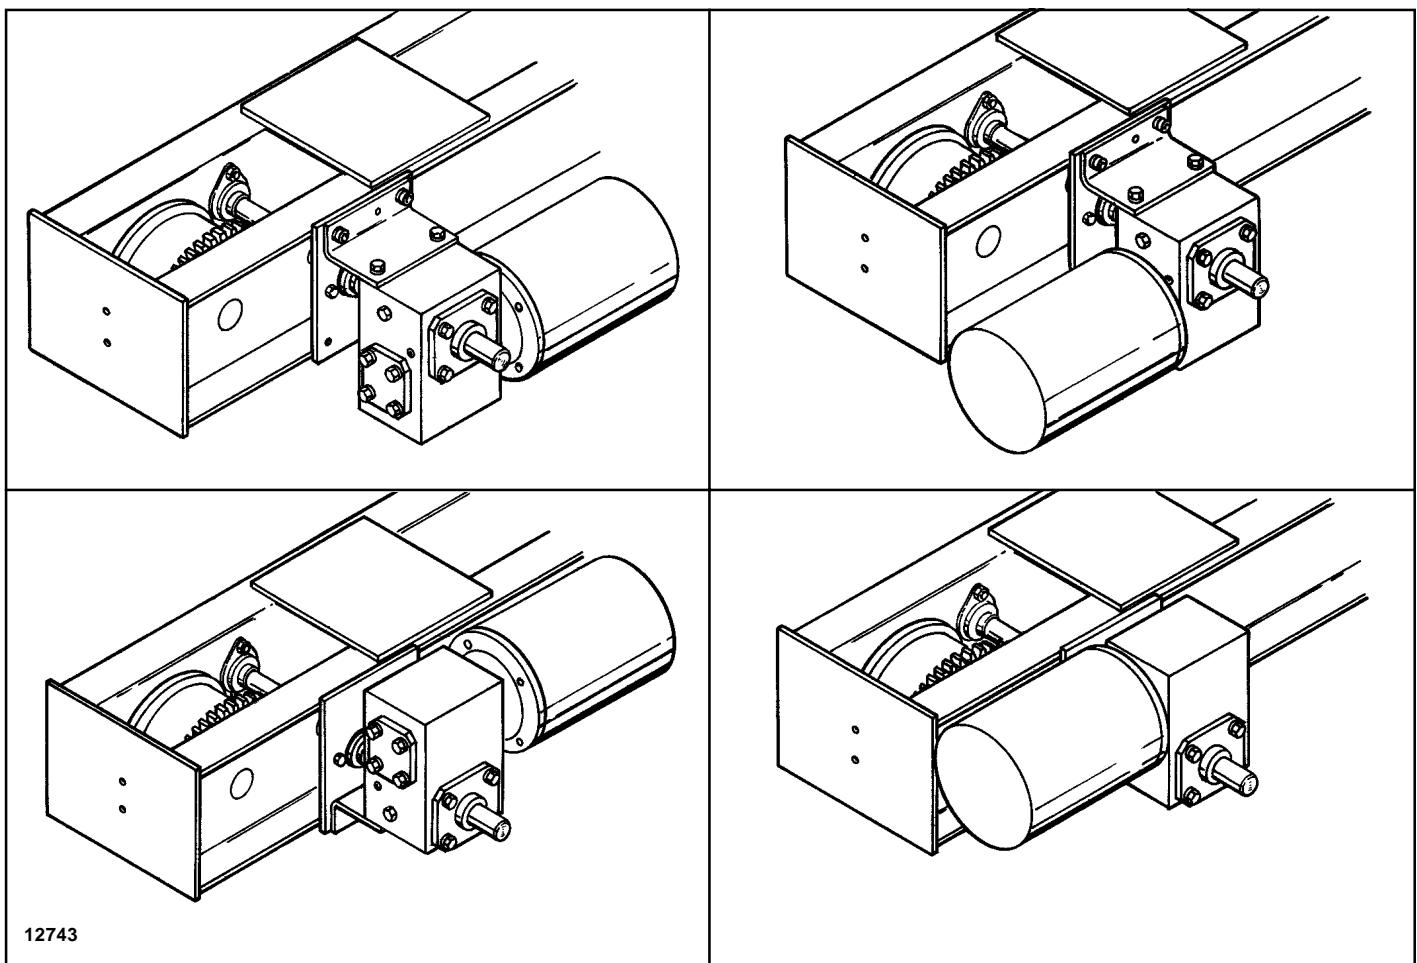

Figure 8.
4. Bolt the motor to the gear reducer with four hex head bolts and lockwashers and bolt the support plate to the gear reducer with two hex socket head cap screws and lockwashers. The drive may go on either end of the bridge. Optional motor-gear reducer locations are shown in Figure 8. The vent (Ref. No. 15 in Figure 16) must be placed in the highest location.
2. Bolt the motors to the gear reducers with four hex head bolts and lockwashers orienting the motor junction boxes appropriately after selecting the motor-gear reducer location from the options illustrated in Figure 8. Bolt the support plate to the gear reducer with two hex socket head cap screws and lockwashers. The highest oil plug in the gear reducer must be removed and the vent be installed. The hardware, vent and support plate are provided with the gear reducer.